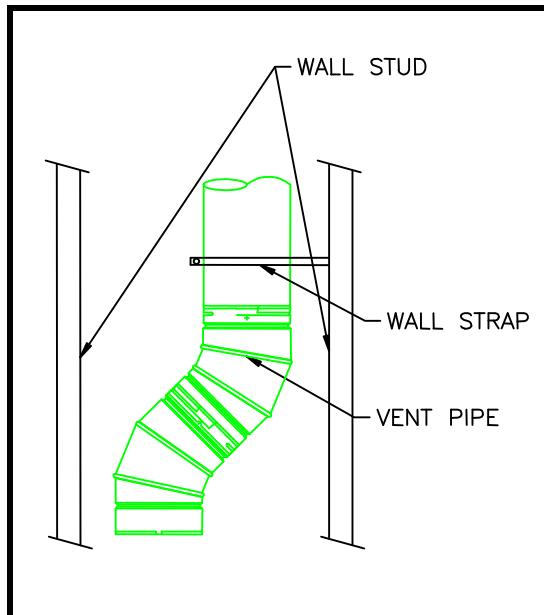

Figure 8: Installing Pipe Supports
1. Attached the first piece piping (elbow or straight pipe) to the pipe connector located above the fireplace. (Secure first section of pipe to damper collar with three (3) Screws).
3. Where necessary add support brackets. Refer to the Figure 8. **Incline runs must be supported every 3 feet.** Vertical runs must be supported every 8 feet, using wall straps. Slip wall straps loosely on to pipe. Attach straps to framing members using nails or screws. Tighten nut/bolt to secure pipe.